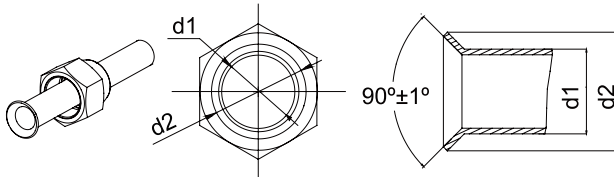

Fig.9
- (1). Cut the connection pipe with the pipe cutter and remove the burrs.
- (2). Hold the pipe downward to prevent cuttings from entering the pipe.
- (3). Remove the flare nuts at the stop valve of the outdoor unit and inside the accessory bag of the indoor unit, then insert them to the connection pipe, after that, flare the connection pipe with a flaring tool.
- (4). Check if the flare part is spread evenly and there are no cracks (see Fig.9).